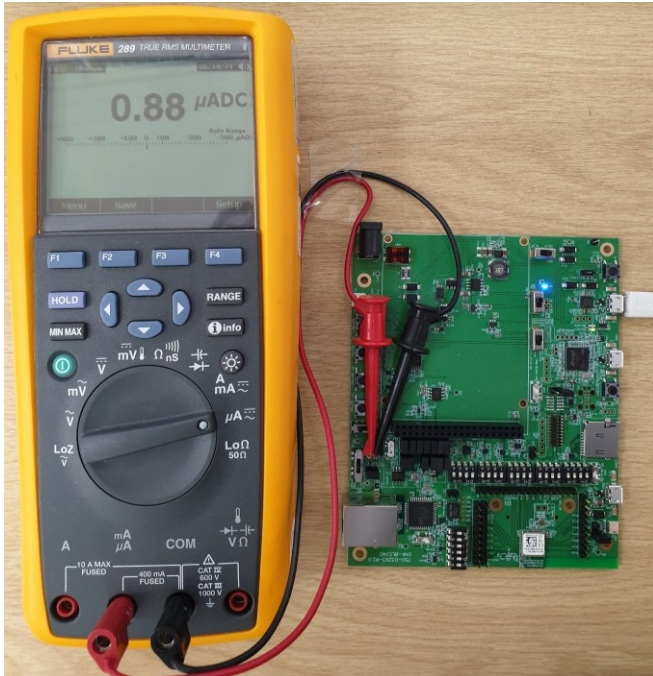

Figure 15: The current falls to about 0.9uA (900nA) at 25°C temperature when placed in System OFF mode
2. Through the current measuring DMM, the current should fall to about 0.9 uA at 25°C temperature (Figure 15).